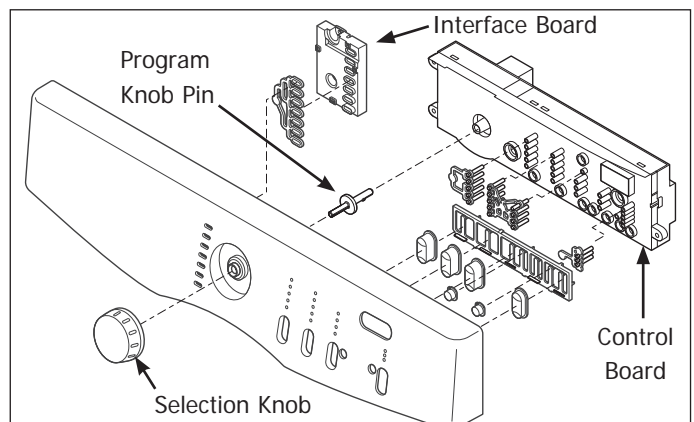

Figure 4-17. Affinity Series
3. With the control board removed, the interface board will lift out. (See Figure 4-17)